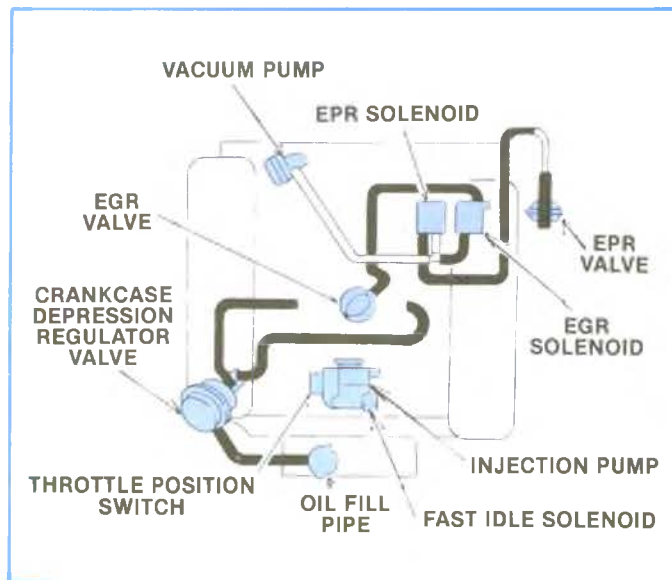

Figure 5-2, Emission Systems — Federal CK (LH6 Engine).
- Figures 5-2, 5-3 and 5-4 are the Federal Emission schematics for various vehicle applications: